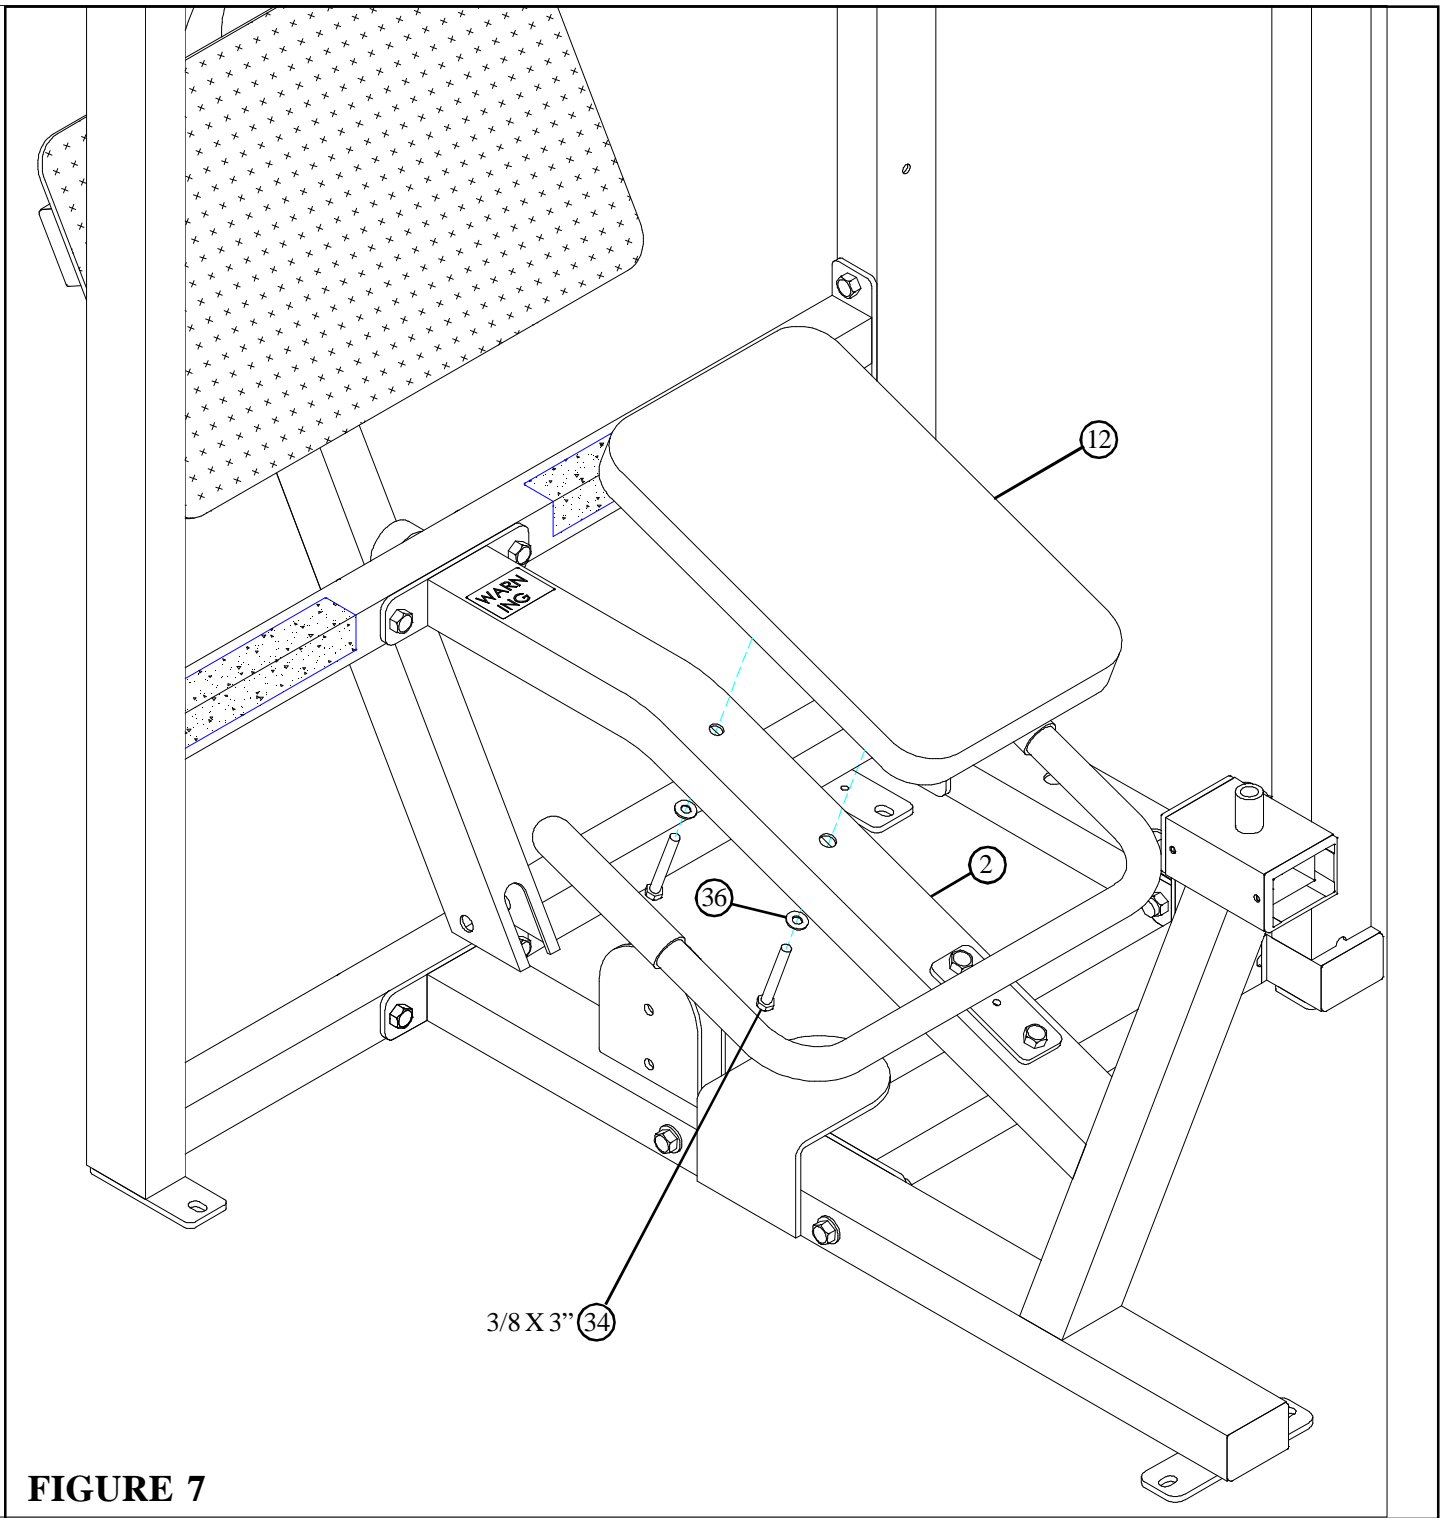

**FIGURE 6**
- **SECURELY** assemble the HANDLE (10) to the FRAME (2) using two 1/2 X 3" BOLTS (38), two 1/2" WASHERS (40), and two 1/2" LOCK NUTS (41) as shown in FIGURE 6.
- Apply two 2-1/2 X 9-1/2" NON-SKID STRIPS (19) a foot stance apart on the PIVOT FRAME (6) as shown in FIGURE 6.